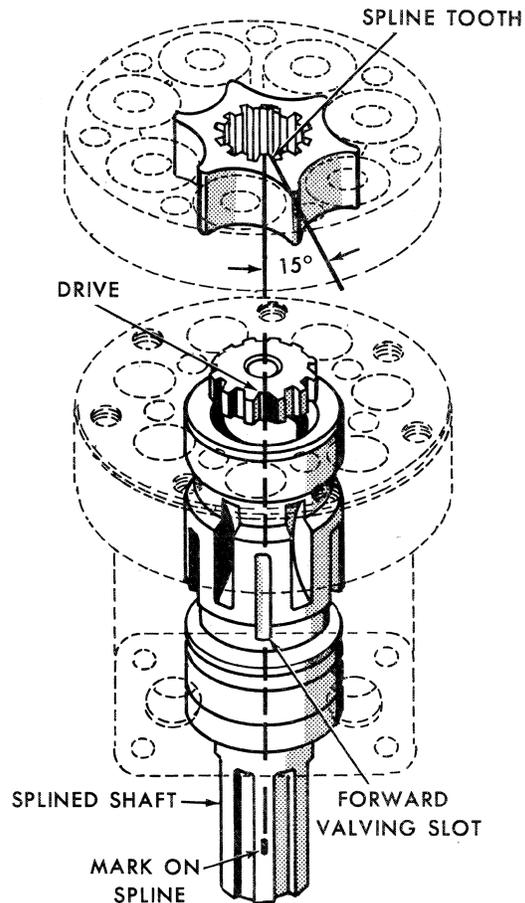

Figure 16
7. Align the mark on the splined shaft with an imaginary center line between the two ports, Figure 16. Insert the splined drive into the shaft in the housing and place the Geroler in the position shown.